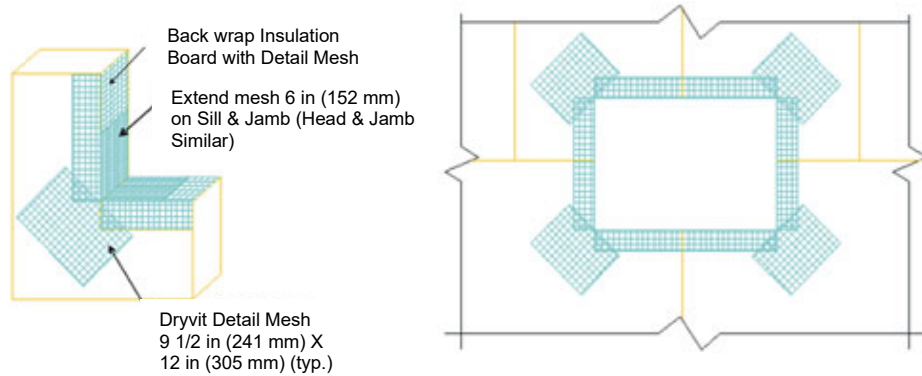

Figure 19
20. Corners of all openings such as windows, doors, mechanical equipment and all penetrations shall be reinforced with Detail Mesh placed diagonally to the opening as illustrated in Figure 19.